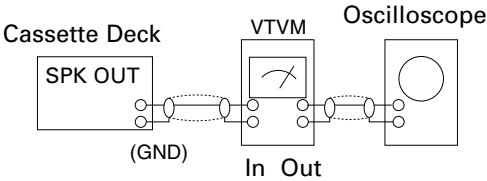

Figure 1-7
3) The cassette deck is connections as shown in figure 1-7.